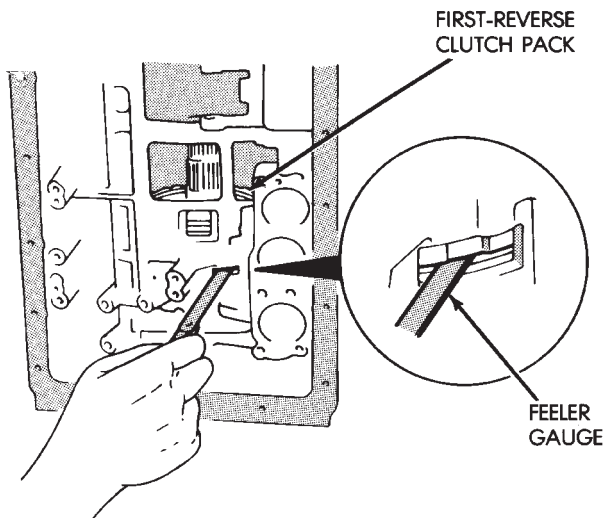

Fig. 43 Checking First-Reverse Brake Clutch Pack Clearance
(52) Measure clearance of first-reverse brake clutch pack (Fig. 43). Clearance should be: 0.70 - 1.2 mm (0.028 - 0.047 in.). Replace discs if clearance is not as specified.